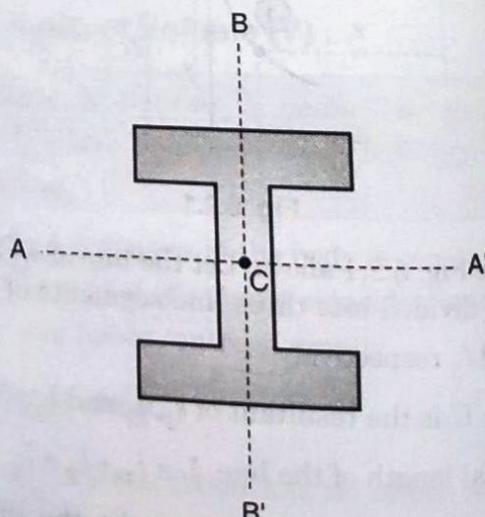

Fig. 5.3.3
- The above Fig. 5.3.3 is symmetrical at A-A' and B-B'. The intersection point of the lines A-A' and B-B' is the centroid (c) of the Fig. 5.3.3.